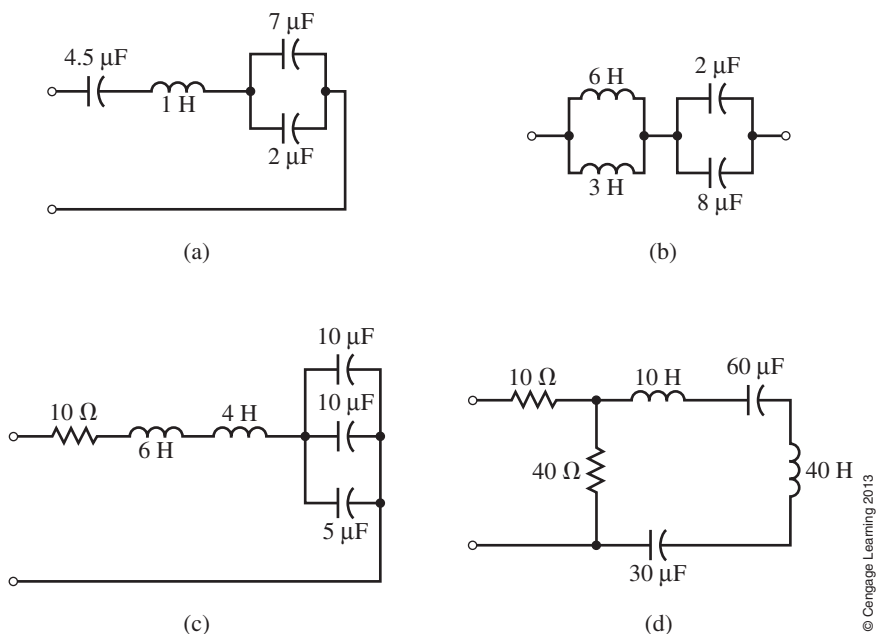

FIGURE 13–42
31. By combining elements, reduce each of the circuits of Figure 13–42 to their simplest form.